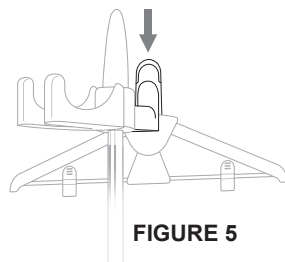

FIGURE 5
3. Press downward gently to lock Hanger onto Hanger Hook (FIGURE 5).